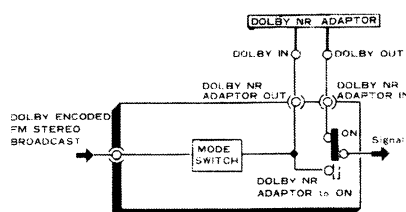

Fig. 25
1. As illustrated in Fig. 25, connect Dolby adaptor to the DOLBY NR ADAPTOR terminals.